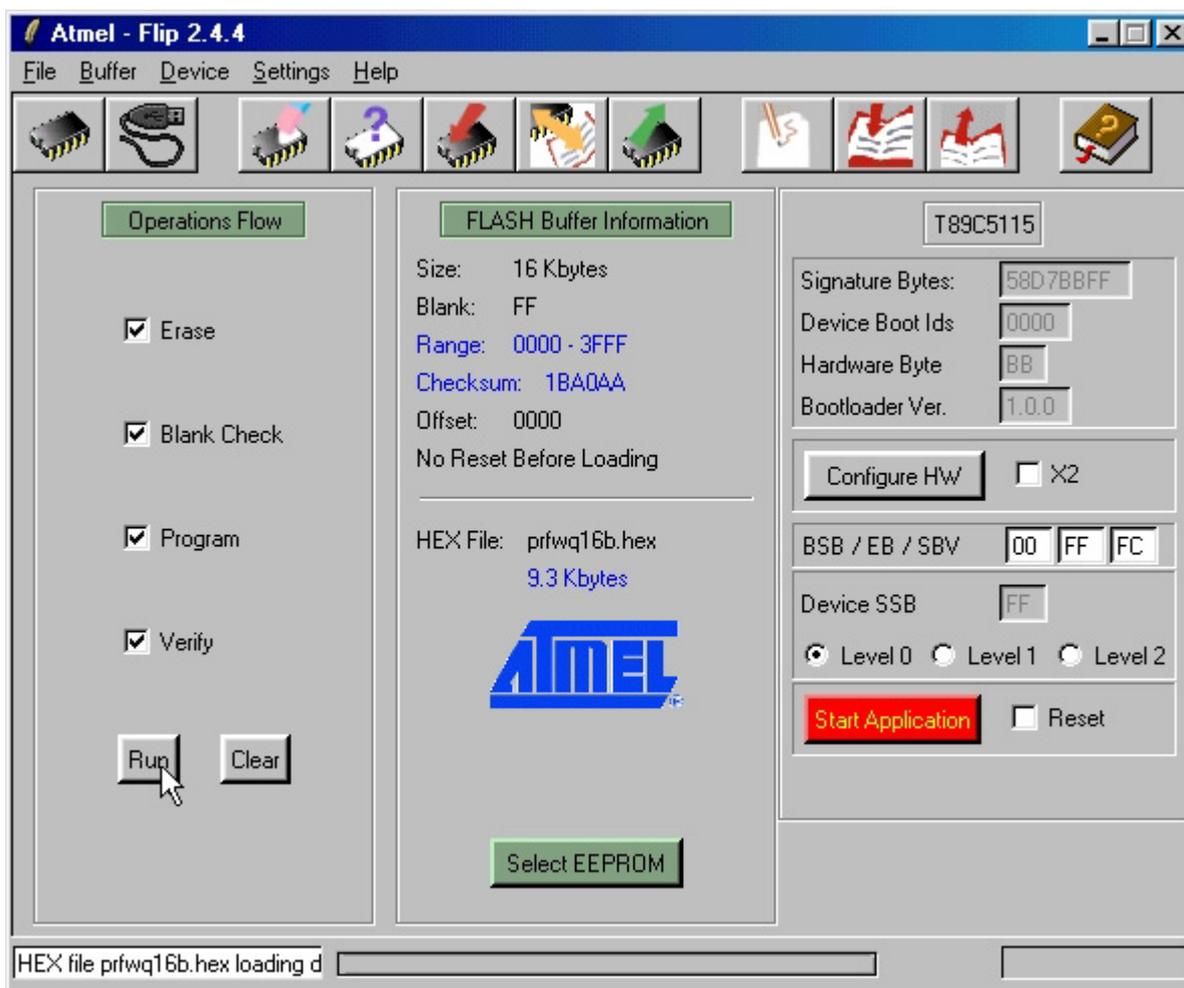

FIGURE 8: FLIP SETTINGS WINDOW (4 OF 4)
- 10) Select all the check boxes in the frame *Operations Flow* as in figure 8, to let FLIP execute in sequence the four operations: erase, blank check, program and verify.
- 11) At this point make sure that main windows of FLIP looks like figure 8; in details for the boxes: *Size:*, *X2*, *Device SSB* and *BSB / EB / SBV* the data must exactly match.